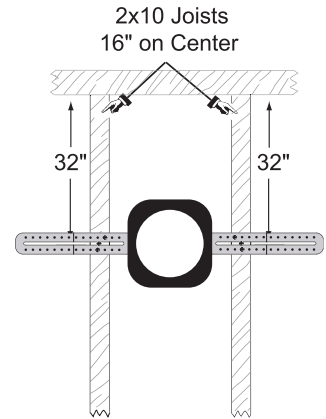

Figure 5
- E. After the speaker bracket is properly positioned install some additional screws or nails to lock down its location. Screws might be preferred if movement or removal could be required at a later date. (**See Figure 5**)